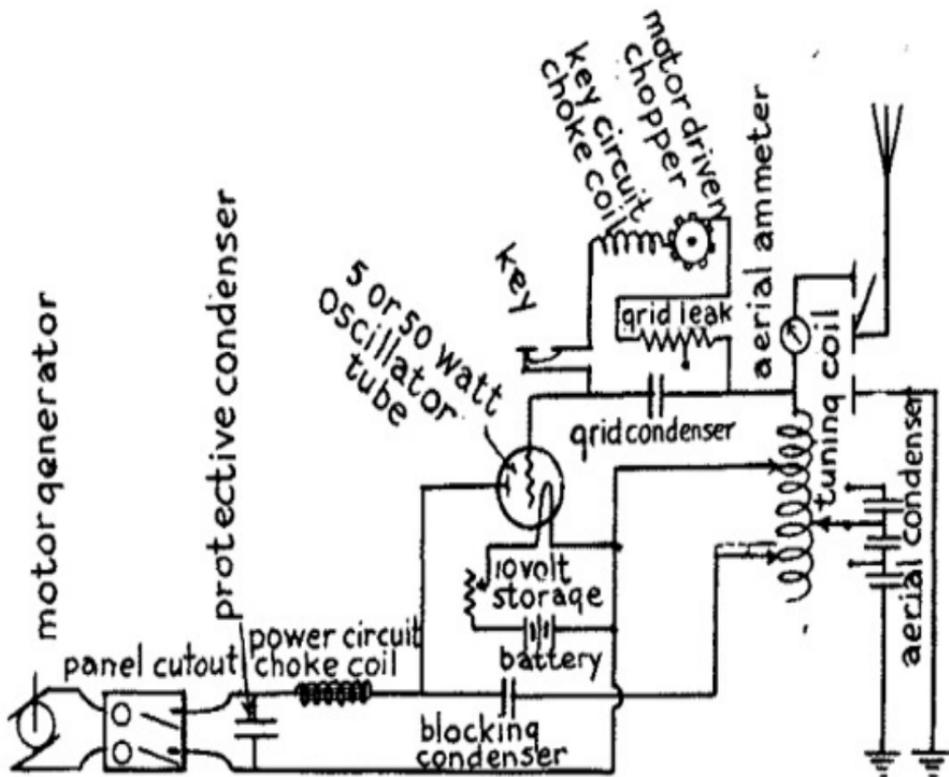

FIG. 78.—5 to 50 Watt C. W. Telegraph Transmitter. (With Single Oscillation Tube.)
*Connecting Up the Transmitting Apparatus.*--From all that has gone before you have seen that each piece of apparatus is fitted with terminal, wires, taps or binding posts. To connect up the parts of this transmitter it is only necessary to make the connections as shown in the wiring diagram *Fig. 78*.
The different pieces of apparatus for this set are connected up exactly the same as shown in the wiring diagram in *Fig. 78*.